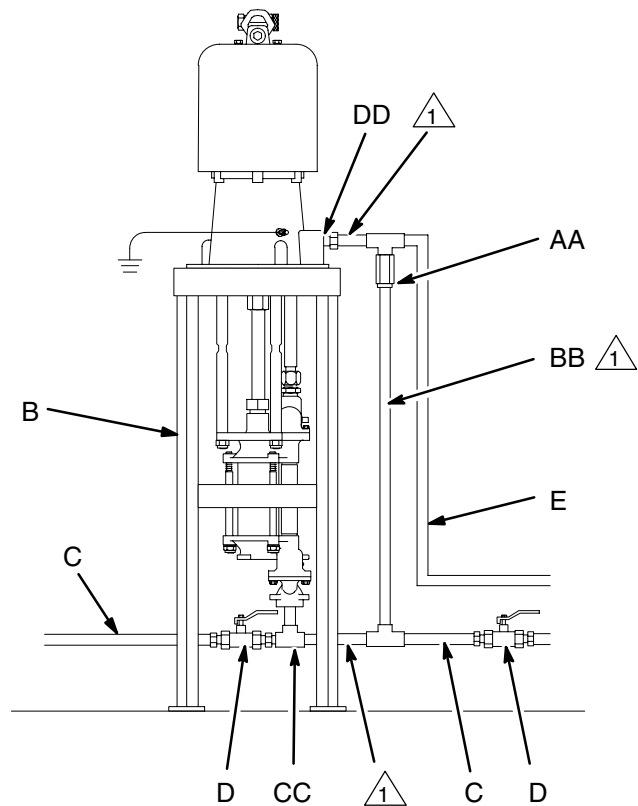

Fig. 3
In non-circulating systems with a fluid outlet that can be closed off (causing the pump to stall), install a fluid pressure relief valve (AA) and a return line (BB) leading back to the fluid supply line (C). See Fig. 3.